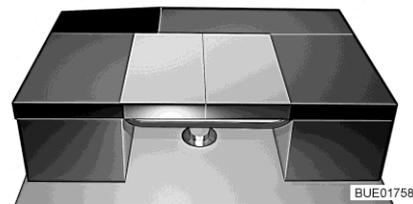

Fig. 158 After conversion
- Place the back cushion of the lateral bench longitudinally on the table (see Fig. 158).